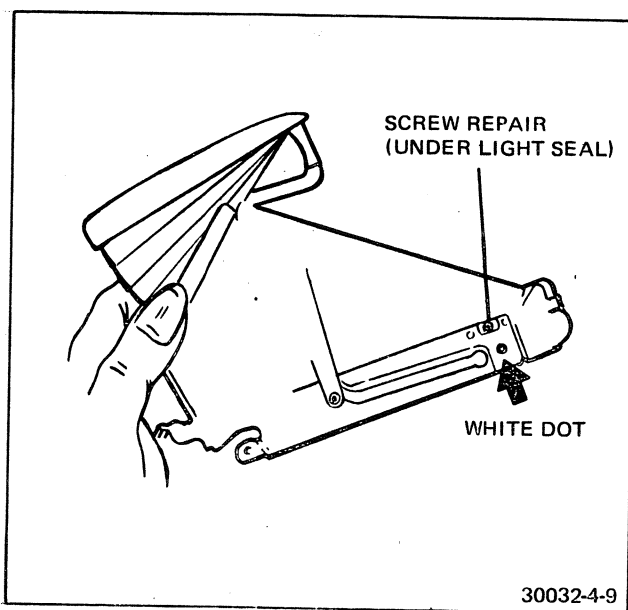

FIGURE 4-9 WHITE DOT INDICATION OF SCREW REPAIR TO BOOT RETAINER TAB
f. Paint or mark a white dot under the light seal to warn that a screw fix has been made (Figure 4-9).
Caution: Before continuing with step 13, look for a white dot painted under the light seal on the upper right side of the bottom plate (Figure 4-9). If the dot is there, it means that a previously broken boot tab has been repaired by using a screw. In this event, you cannot snap off the retainer as described in the next paragraph.